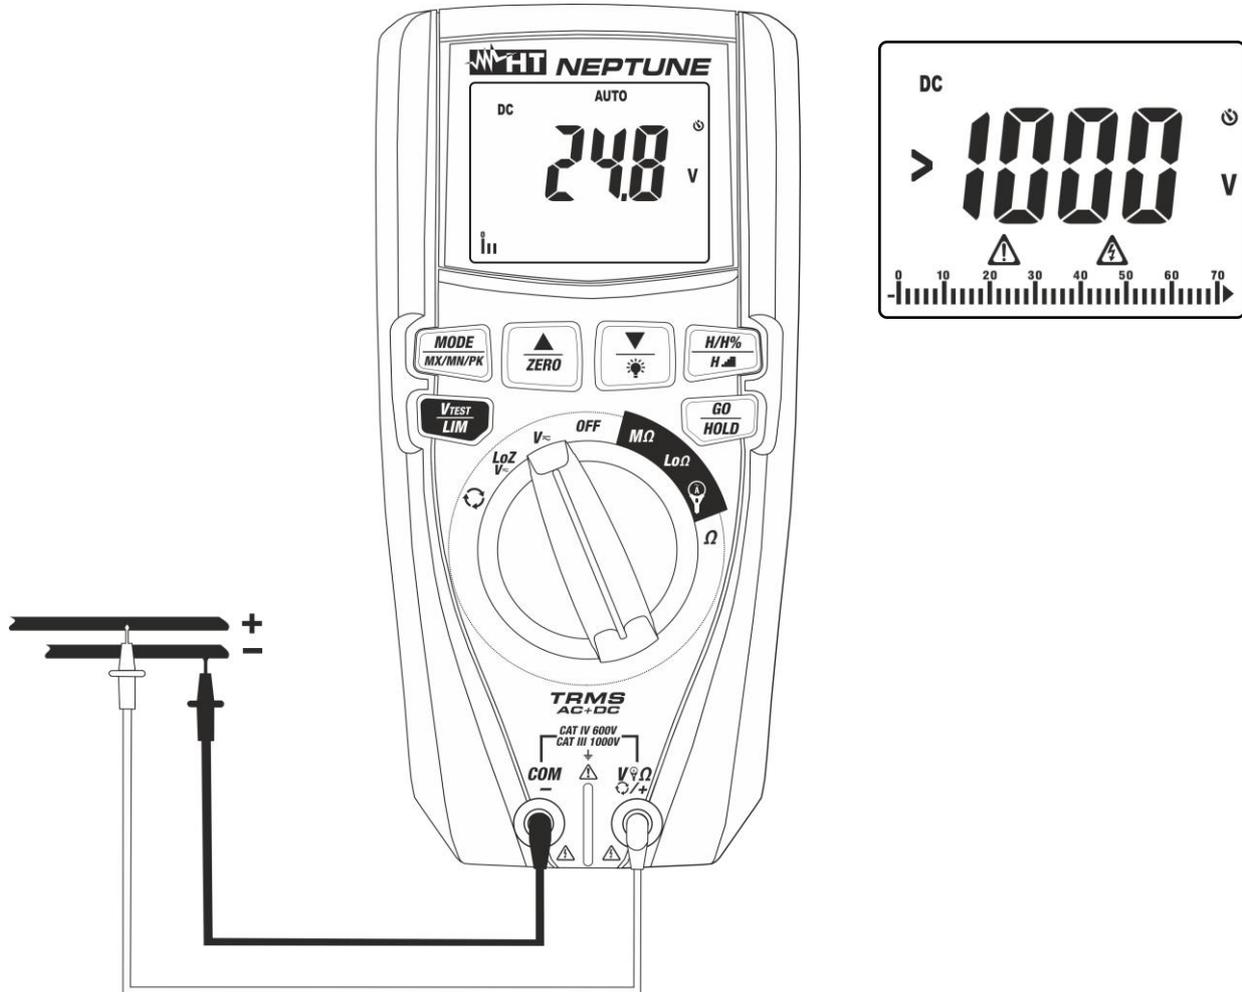
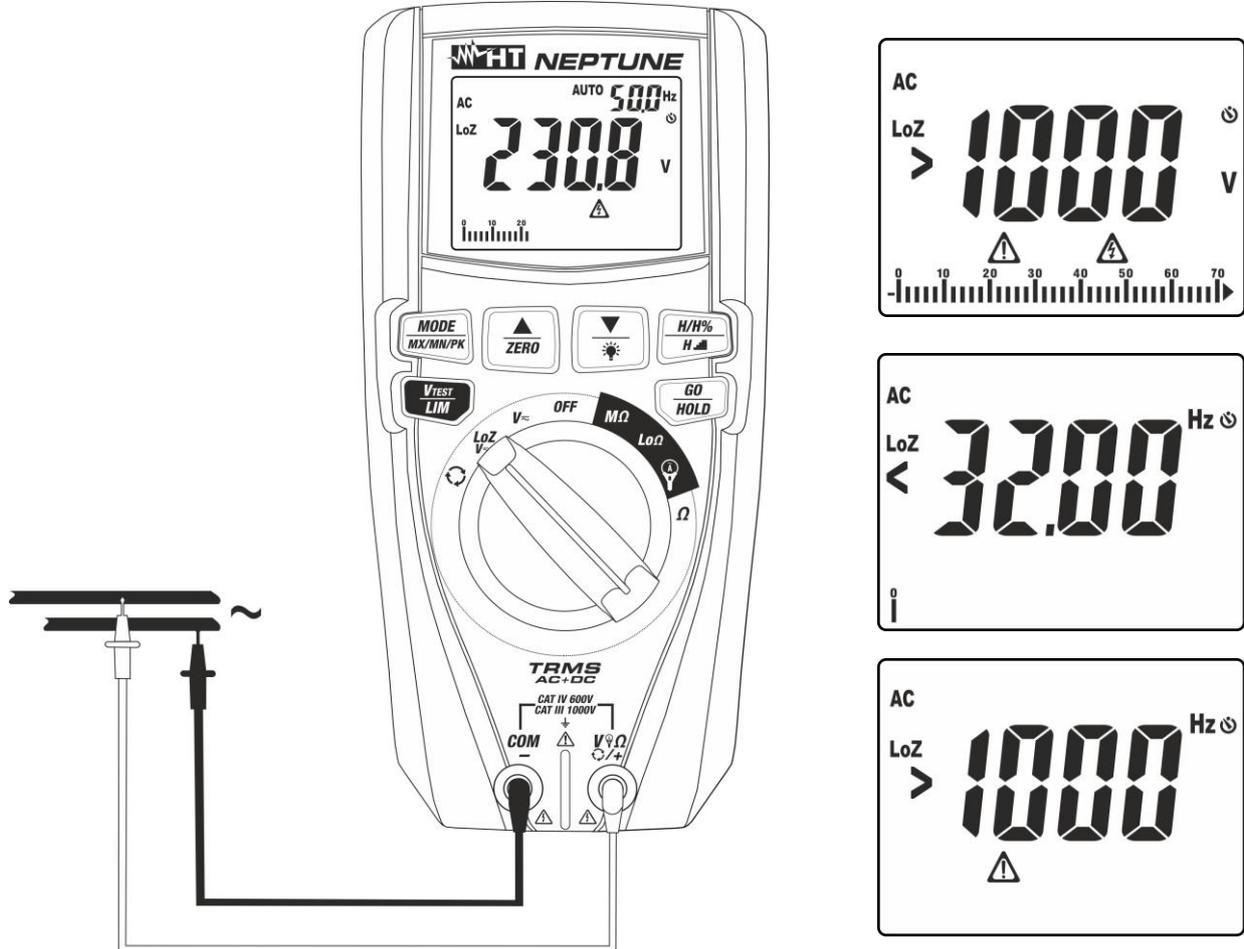

Fig. 6: Use of the instrument for DC voltage measurement
Fig. 8: Use of the instrument for AC/DC voltage measurement with LoZ function
3. Position the red lead and the black lead respectively in the spots with positive and negative potential of the circuit to be measured (see Fig. 6). The display shows the value of voltage.
4. If the display shows the message **>1000V** (see Fig. 6), the maximum measurable value has been reached.
5. When symbol **"-**" appears on the instrument's display, it means that voltage has the opposite direction with respect to the connection in Fig. 6.
4. Position the red lead and the black lead respectively in the positions of the circuit to be tested (see Fig. 8) for AC voltage measurement or in the positions with a positive or negative potential of the circuit to be tested (see Fig. 6) for DC voltage measurement. The display shows the value of voltage. On the top of the display on the right side, the value of voltage frequency is displayed. Press key **MODE/MXMNPK** to display the value of frequency with a higher resolution.
5. If the display shows the messages “<32Hz” or “>1000Hz” (see Fig. 8), the value of frequency is out of the measuring range **32Hz ÷ 1000Hz**.
6. When symbol “-” appears on the instrument's display, it means that voltage has the opposite direction with respect to the connection in Fig. 6